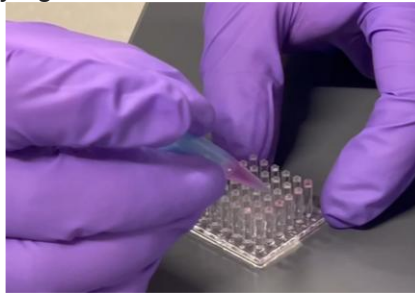

Figure 2. Loading the cell-Matrigel-alginate mixture on the pillar plate using a 1 mL pipette tip.
14. Gently tap the 1 mL pipette tip containing the cell-Matrigel-alginate mixture onto the center of the pillar to load single-cell suspension in Matrigel-alginate while blocking the large back opening of the tip with the index finger (Fig. 2).